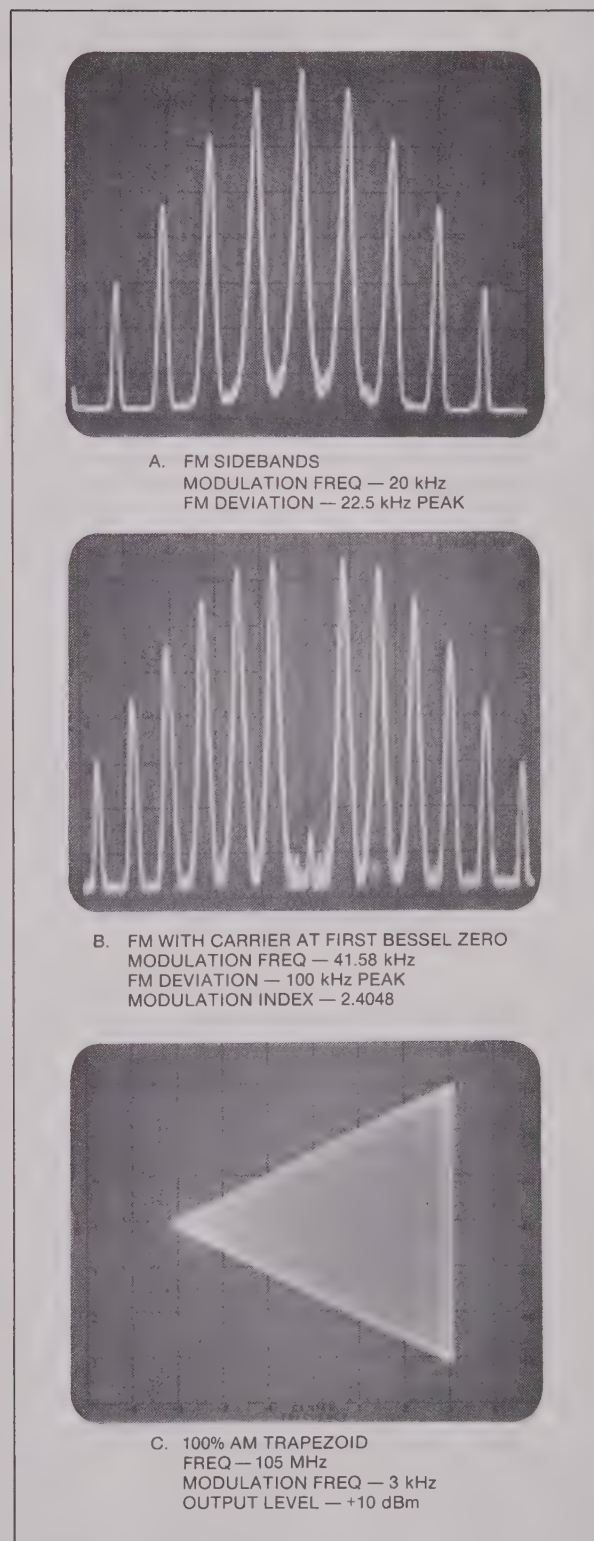

Figure 1-5 FM/AM Modulation Characteristics
d. **FM/AM Modulation Capabilities.** (See Figure 1-5.) The Model 102A is the ideal instrument for a wide variety of test applications because of its flexible modulation capabilities. FM and AM, using either internal or external modulation signals, can be used either singly or simultaneously. FM deviation is calibrated to an exceptionally wide 300 kHz in five